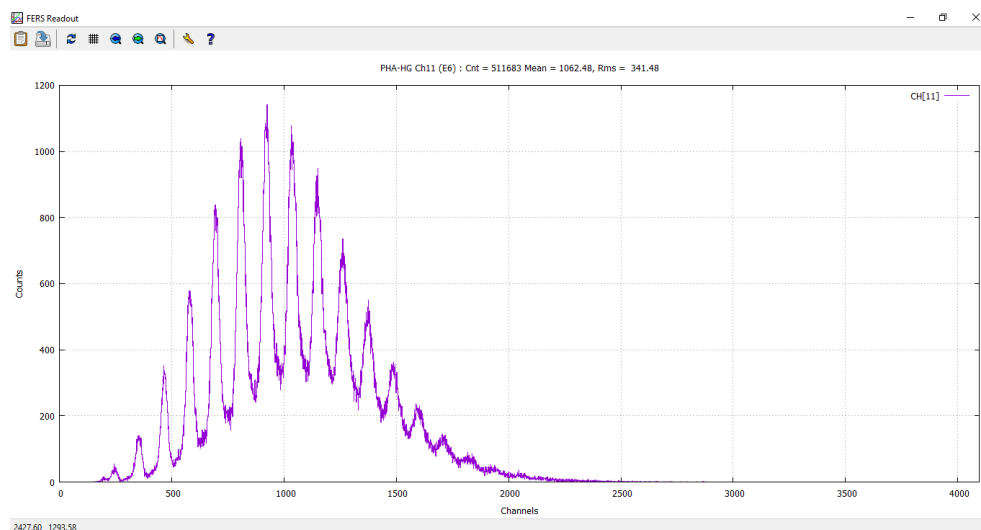

Fig. 10.44: Example of pulse height spectrum (from HG amplification chain) with the well visible photopeaks.
6. Press the "Plot Traces" button. Select "Spect HG" or "Spect LG" for the "Plot Type" command in order to visualize the pulse height spectrum from one of the two amplification chains. In Fig. 10.44, an example of the spectrum obtained for signals from the HG amplification chain is presented.
Note: A tuning of the light intensity and of the "HG Gain" parameter was necessary to obtain the plot in Fig. 10.44.
The spectrum shown in Fig. 10.44 shows clearly the presence of photopeaks. The main issue could then be to determine how many triggered photoelectrons each peak corresponds to. The instructions reported below are quite general and may be useful to determine this information: